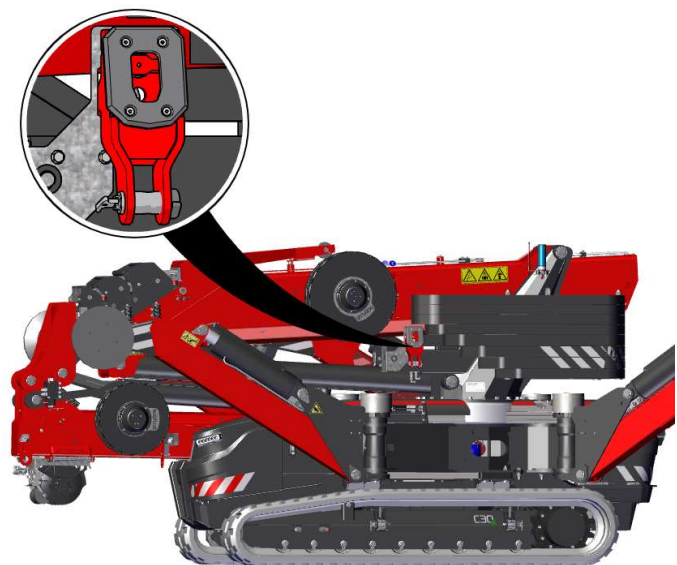

Figure: 56
- The lifting hook adapter is normally stored on the left side of the crane, alongside the column (see figure 56).